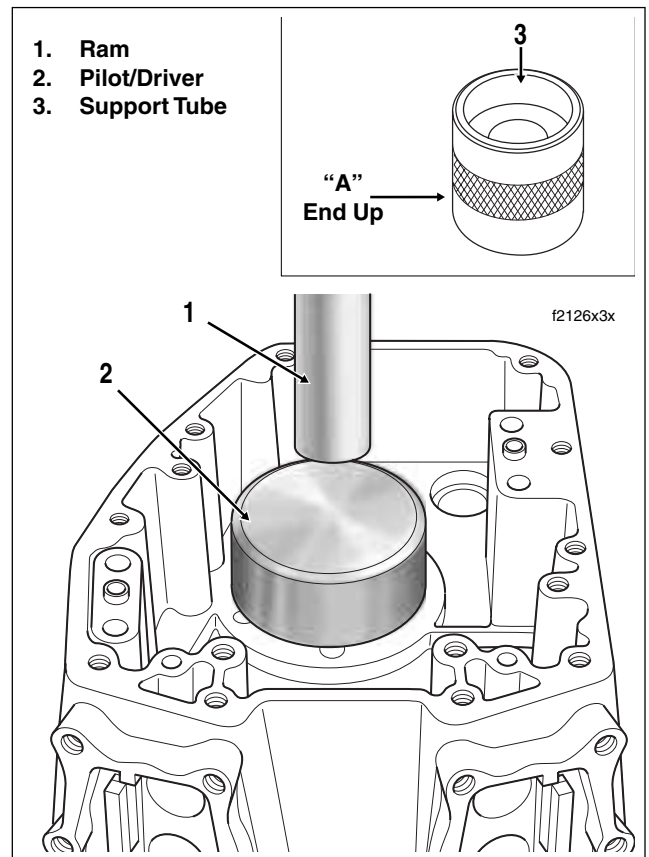

Figure 3-123. Remove Crankshaft Bearing
5. Center pilot/driver under ram of press. Apply pressure to pilot/driver until bearing is free. See Figure 3-123.